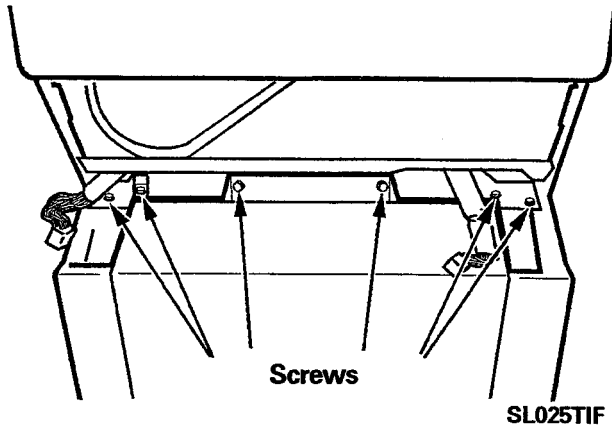

Figure 2-23
4. Remove the six screws across the lock support (*Figure 2-23*).